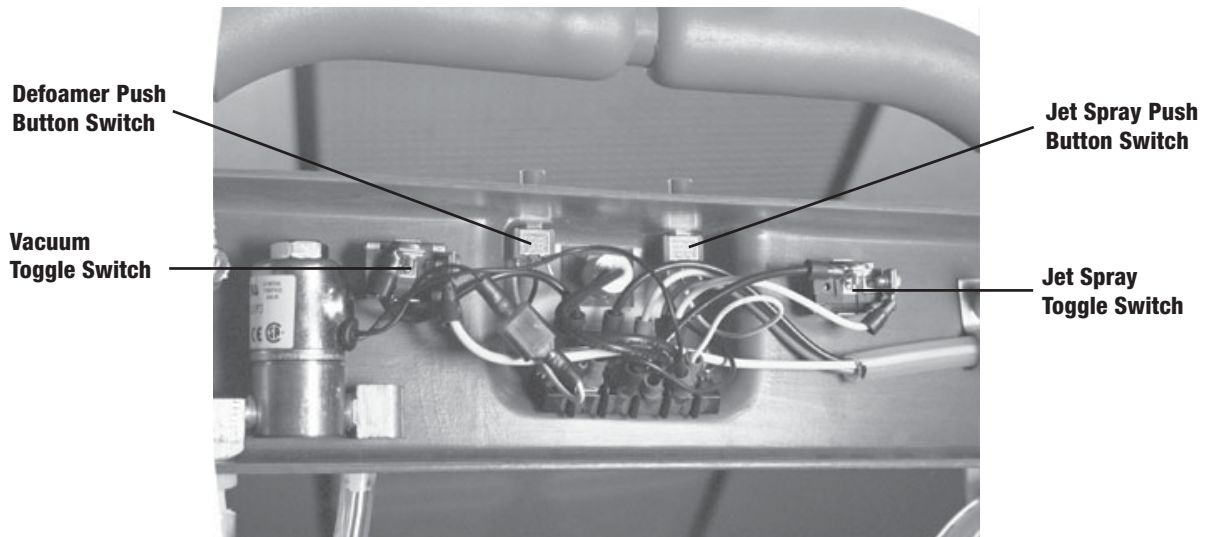

Figure 25
2. Remove backplate of control panel (fig. 25).